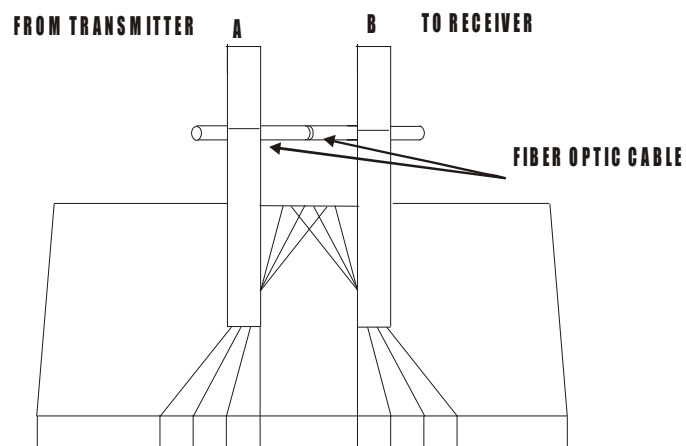

FIG.8.3 ANGULAR DISPLACEMENT
- Do the connections as shown in fig. 8.3.